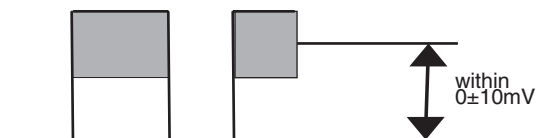

Fig. 7
4. Press " 6 ". The display will momentarily show " SECAM B-L ". Adjust the blue by pressing the " CH ▲ / ▼ " buttons like Fig.7.